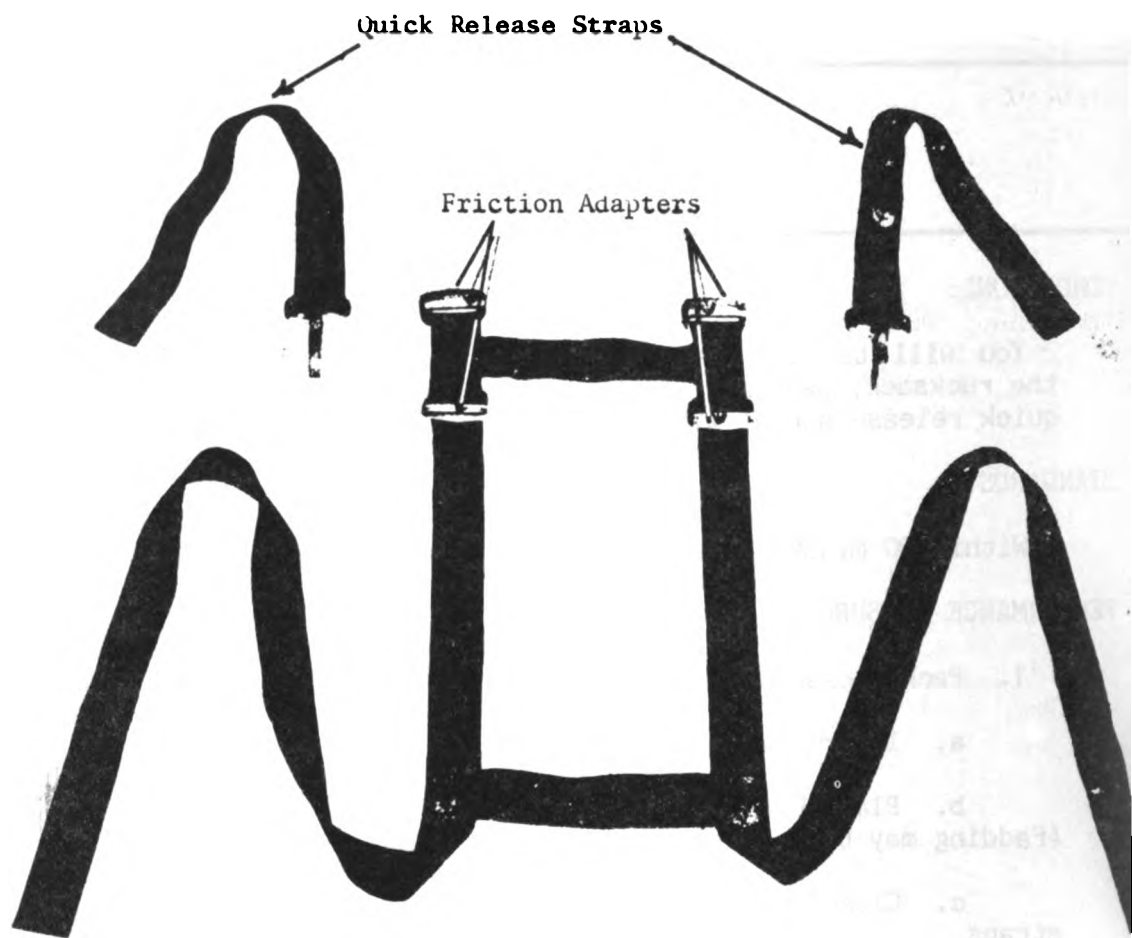

Figure 1. The H-harness.
2. Rig H-Harness (see fig. 1).